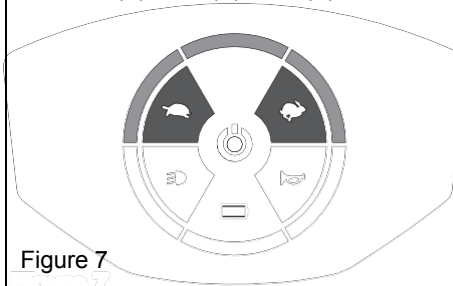

Figure 7
- There are 3 different speeds of adjustment fastest 3>2>1 slowest. (Figure 7)
(1) (2) (3)